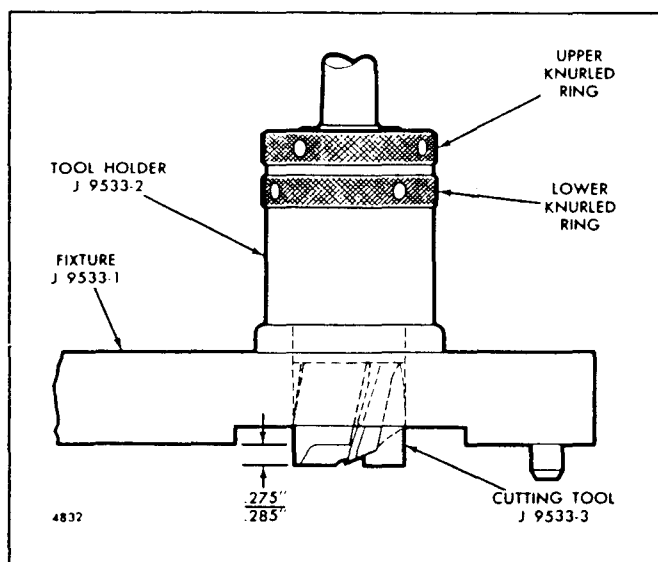

Fig. 1 - Adjustment of Tool Holder
- a. Insert the rough cutting tool J 9533-3 in the tool holder as shown in Fig. 1.